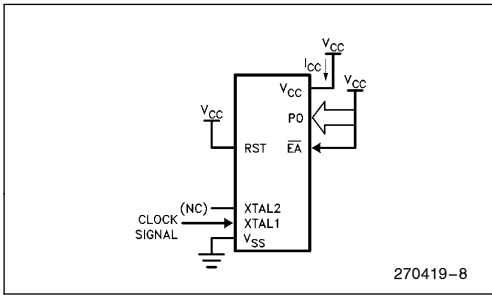

Figure 7. ICC Test Condition, Active Mode. All other pins are disconnected.
6. See Figures 7 through 10 for ICC test conditions. Minimum VCC for Power Down is 2.0V.